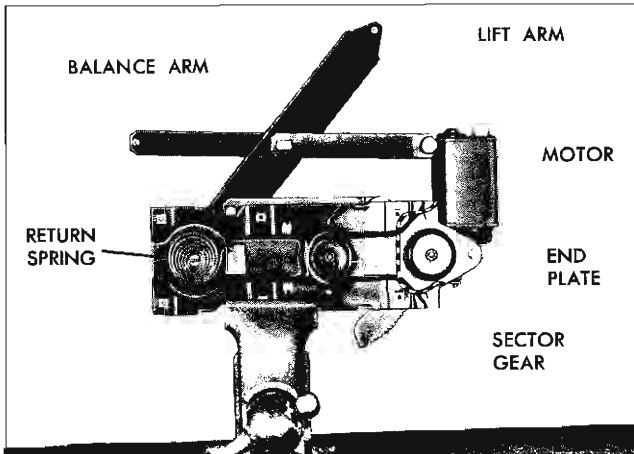

Fig. 3-36 Window Regulator and Motor
1. Remove window electric regulator and clamp assembly in a vise (Fig. 3-36).